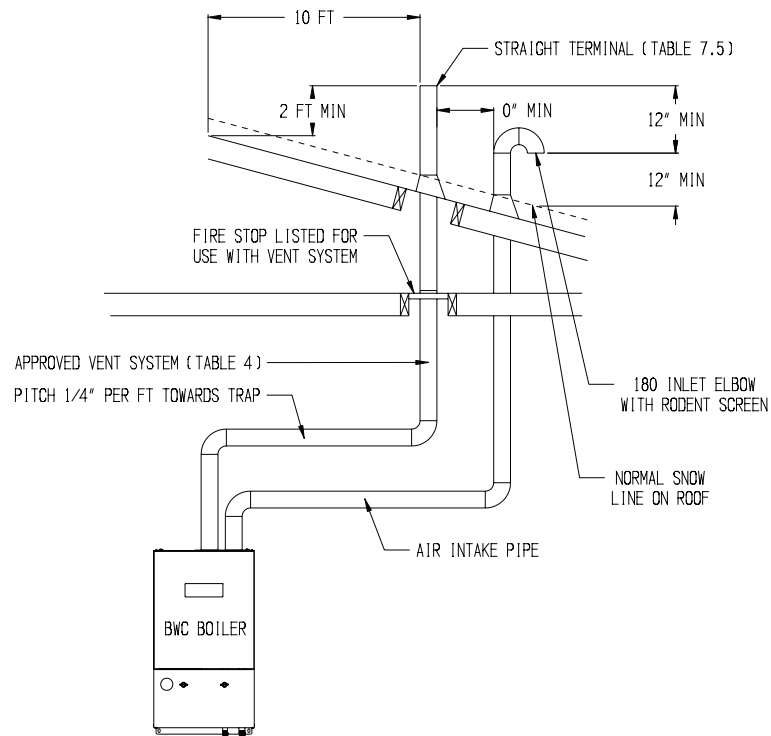

FIGURE 7.10: VERTICAL TWIN PIPE VENT SYSTEM (VENT OPTION 5)
- **Vent Option 5** - A straight termination is installed in the end of the vent pipe. Vent manufacturer part numbers for these screens are shown in Table 7.5. The air inlet terminal consists of a 180 degree elbow (or two 90 degree elbows) with a rodent screen as shown in Figure 7.10.
- 7) Vertical Vent Terminal Locations (Vent Options 5,6) - Observe the following limitations on the location of all vertical vent terminals (see Figures 7.10, 7.11):